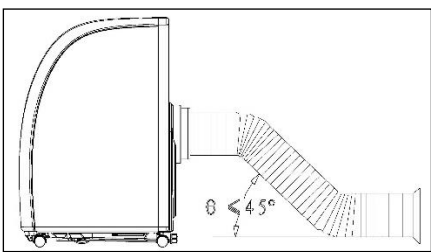

Fig.15
- 6) Install filters to their original position in the direction as shown in Fig.15.